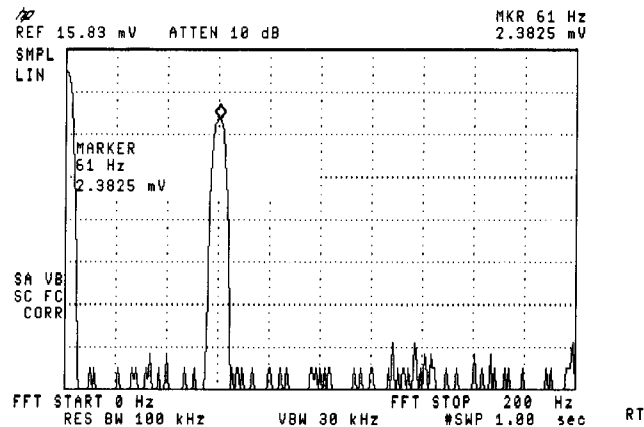

Figure 4-1. FFT Annotation
11. Press **(MEAS/USER)** and **% AM ON OFF** so that ON is underlined. The spectrum analyzer reads out the percent AM of the largest modulation frequency. An arrow indicates the signal being measured. See Figure 4-1. This measurement does not include all of the harmonics of the modulating signal.
7. Press **(MEAS/USER)** and **% AM ON OFF** so that ON is underlined. The spectrum analyzer reads out the percent AM of the largest modulation frequency. An arrow indicates the signal being measured. See Figure 4-1. This measurement does not include all of the harmonics of the modulating signal.